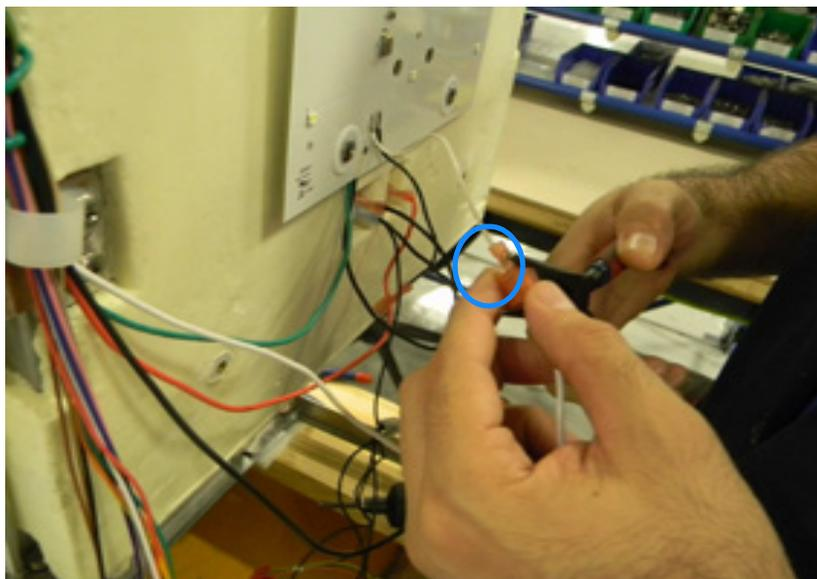

Figure 5.
- Connect the White wire from LED to White wire from the Harness, as shown in Figure 5.